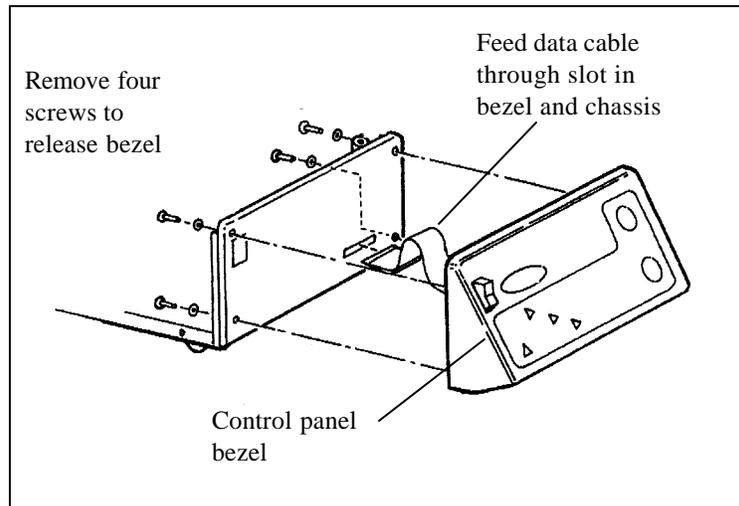

Figure 4- 7 Front bezel removal
4. Remove four KC30 x 12 pan head torx screws which secure the control panel bezel to the chassis. (Figure 4- 7)